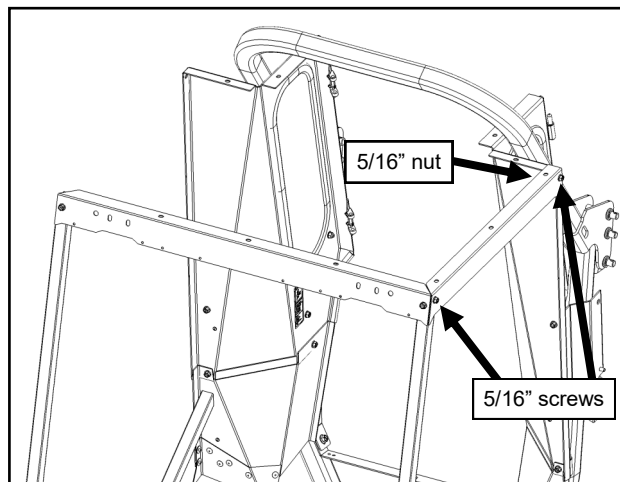

Fig. 11.1 (Install Left Door Header)
- 11.1 Install the left Door Header to the A-pillar and rear leg. See Figure 11.1.